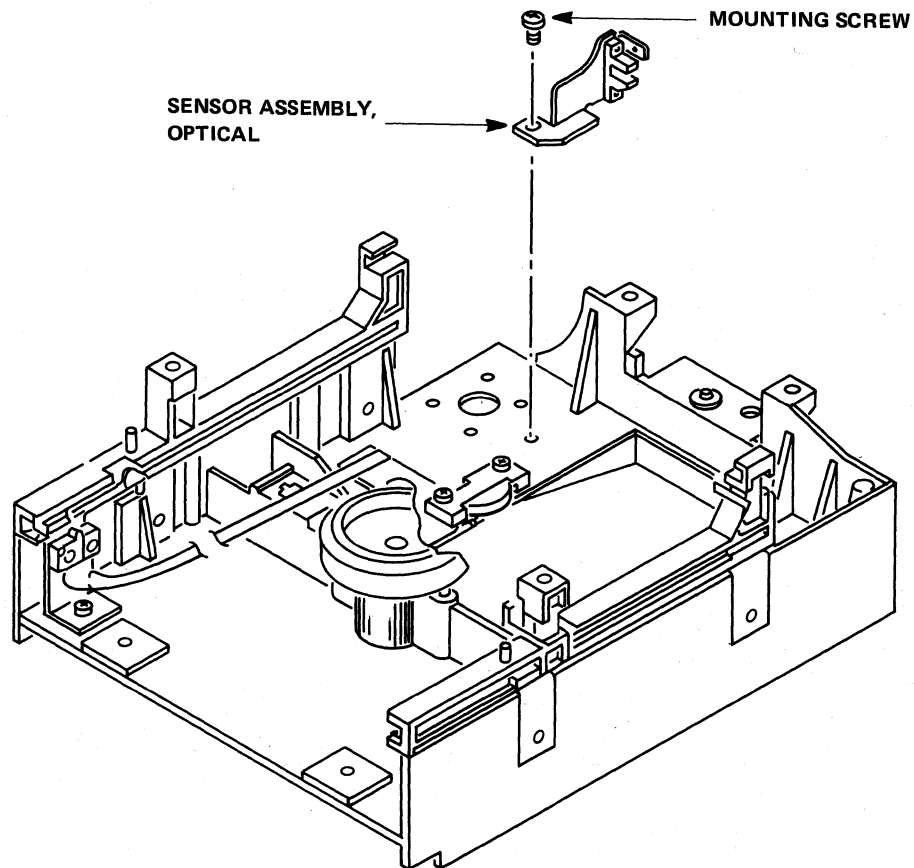

Figure 5-22
5.11.5 With a Phillips screwdriver, remove the mounting screw that attaches the Track 00 Sensor Assembly to the chassis (see Figure 5-22).
- 5.11.10 With a Phillips screwdriver, install and tighten the mounting screw that attaches the Track 00 Sensor Assembly to the bottom of the chassis (see Figure 5-22).